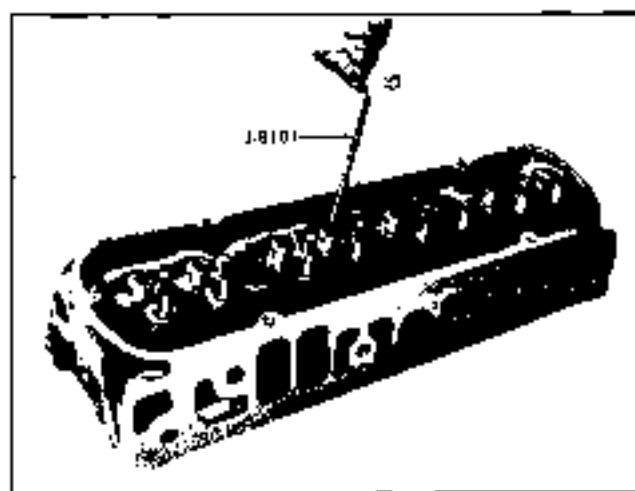

Fig. 6-90 Cleaning Valve Guide
4. Clean valve guides thoroughly, using valve guide cleaner J 8101 (Fig. 6-90).